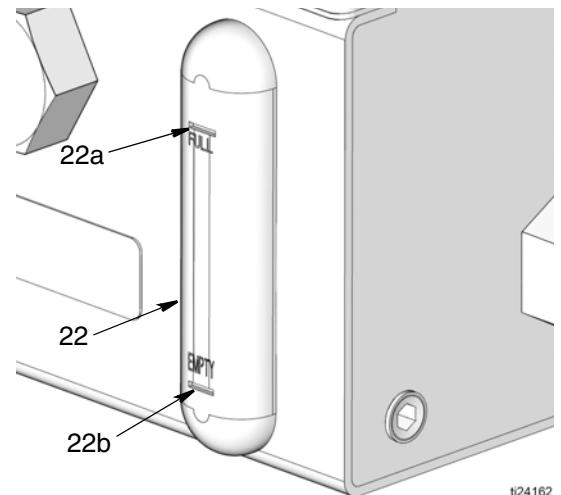

FIG. 2
Fill gear box to FULL line (22a) on the sight glass (22) with SAE 30 to SAE 40 weight gear lube. Run the box normally and change gear lube after a 2 week run in period. (FIG. 2).